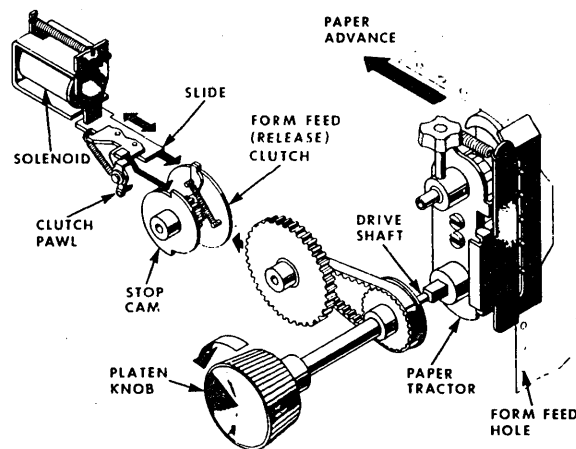

Figure 1-5. PAPER MOVEMENT MECHANISM
1.3.2 PAPER MOVEMENT (FIGURE 1-5)